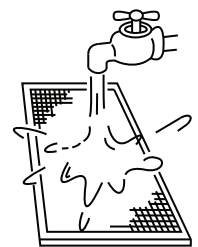

Fig. 5.4
- The air-in side should face down when using water. **(See Fig. 5.4)**